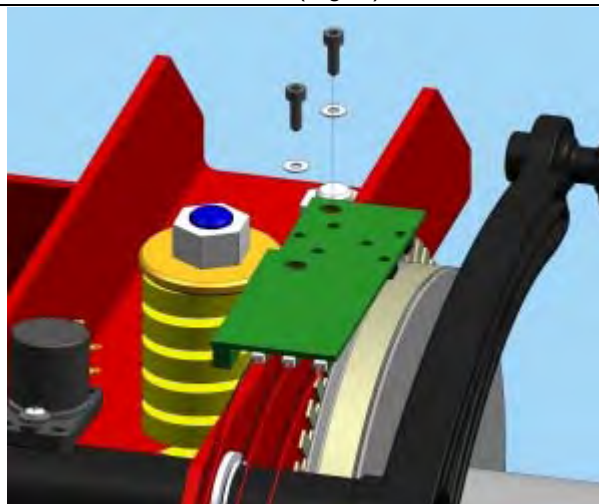
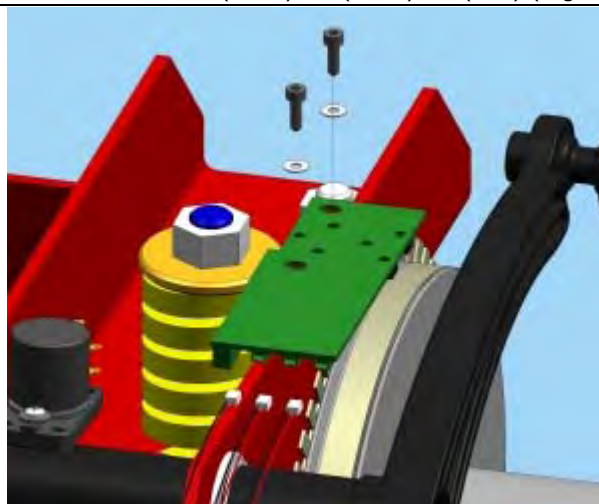

Fig. 1
Fig. 2
1. Remove the upper cover. Remove the 1140 board (**Fig. 1**)
2. Disconnect the piezos from 1140 board: J1 (PZ1A), J2 (PZ1B), J3 (PZ2) (**Fig. 2**)
11. Put the 1140 board (**Fig. 1**) and connect the piezo to 1140 board: J1 (PZ1A), J2 (PZ1B), J3 (PZ2) (**Fig. 2**)